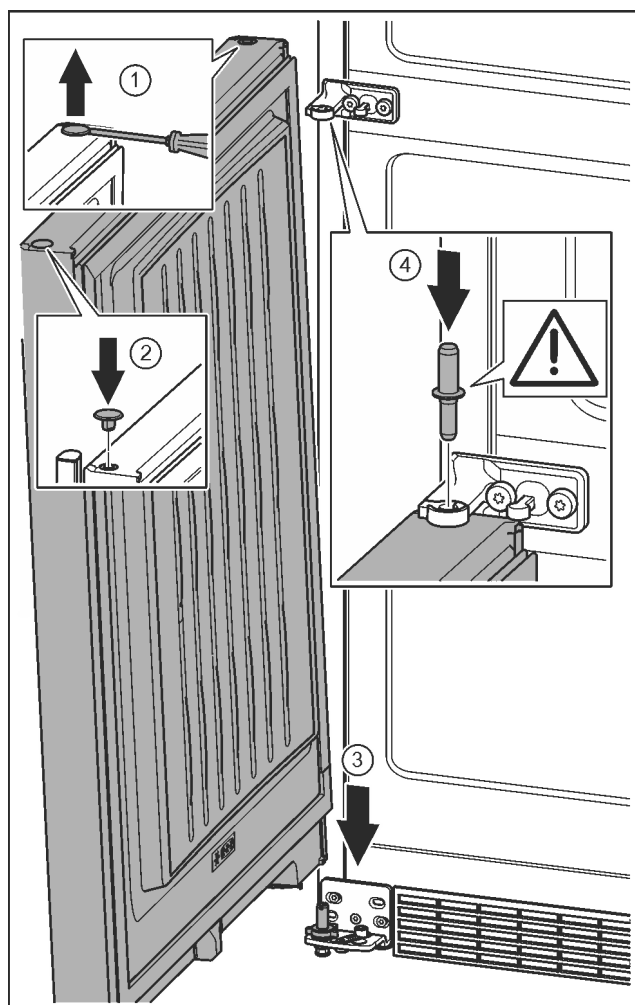

Fig. 23
- Carefully lift up the plugs with a slotted screwdriver and remove them. Fig. 23 (1)
- Insert the plugs again on the other side of the door. Fig. 23 (2)
- Position the door from above onto the lower bearing pins. Fig. 23 (3)
- Insert the centre bearing pin through the centre bearing bracket into the lower door. Make sure that the catch mechanism is pointing to the rear. Fig. 23 (4)